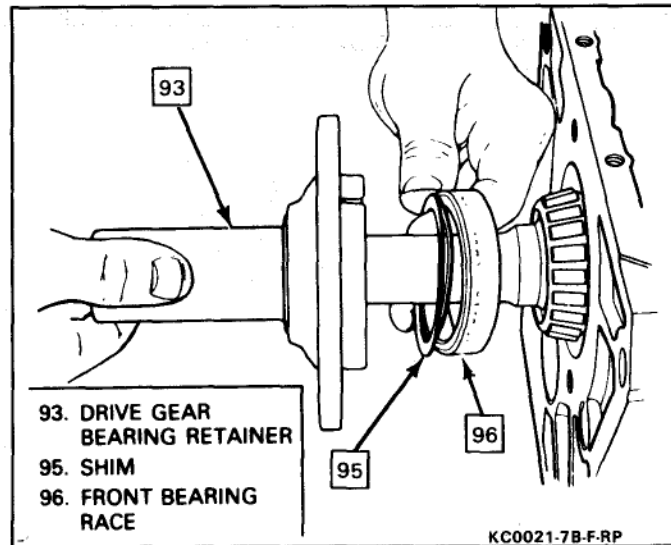

Figure 13 Bearing Retainer and Shims
18. Front bearing race and end play shims from front bearing retainer (Figure 13).